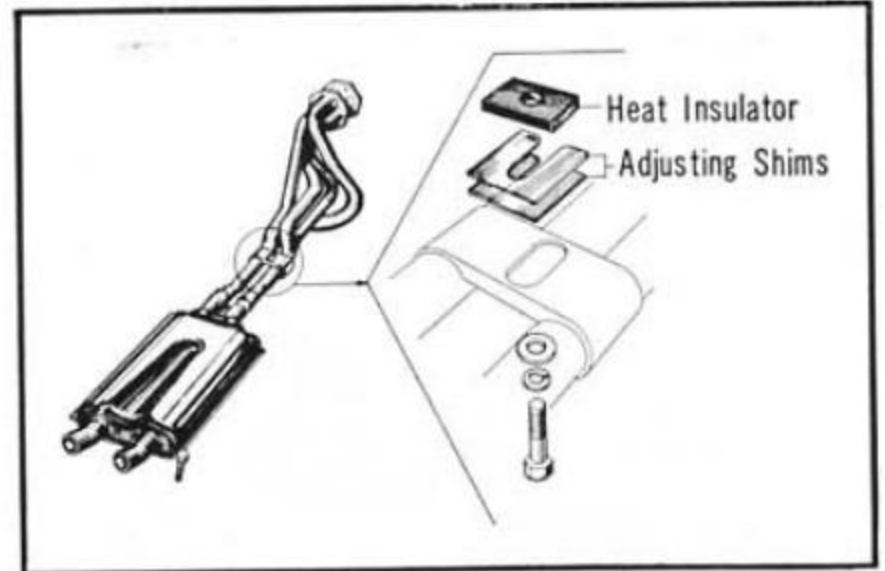

Fig. 1E-17
17. Remove the exhaust pipe mounting bolt (Fig. 1E-17).
18. Remove the engine mounting nuts at the rear engine mounts (Fig. 1E-18).